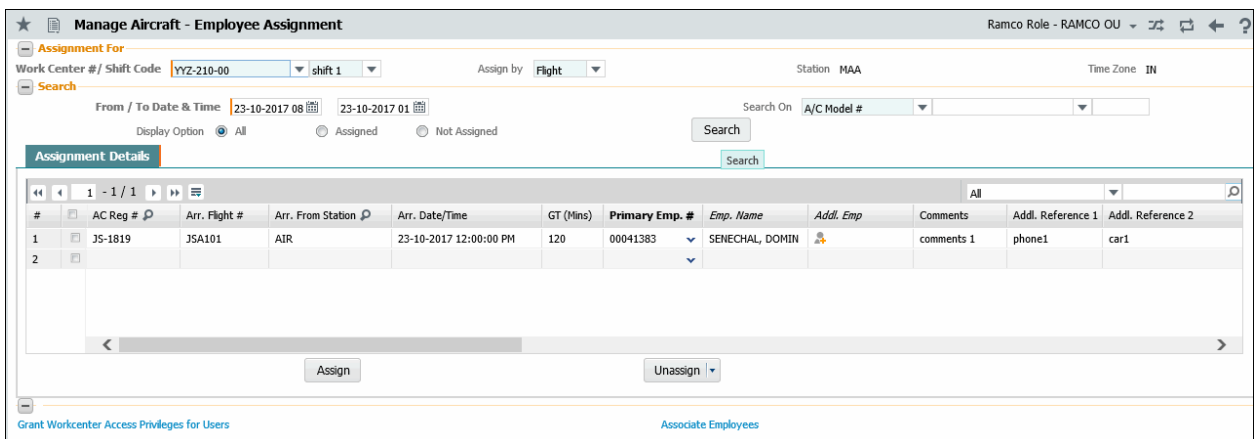

Figure 2.30: Managing employee work assignments
1. Select the **Manage Aircraft - Employee Assignment** link under the **Aircraft Maintenance Planning** business component. The “Manage Aircraft - Employee Assignment” page appears. *See Figure 2.30.*